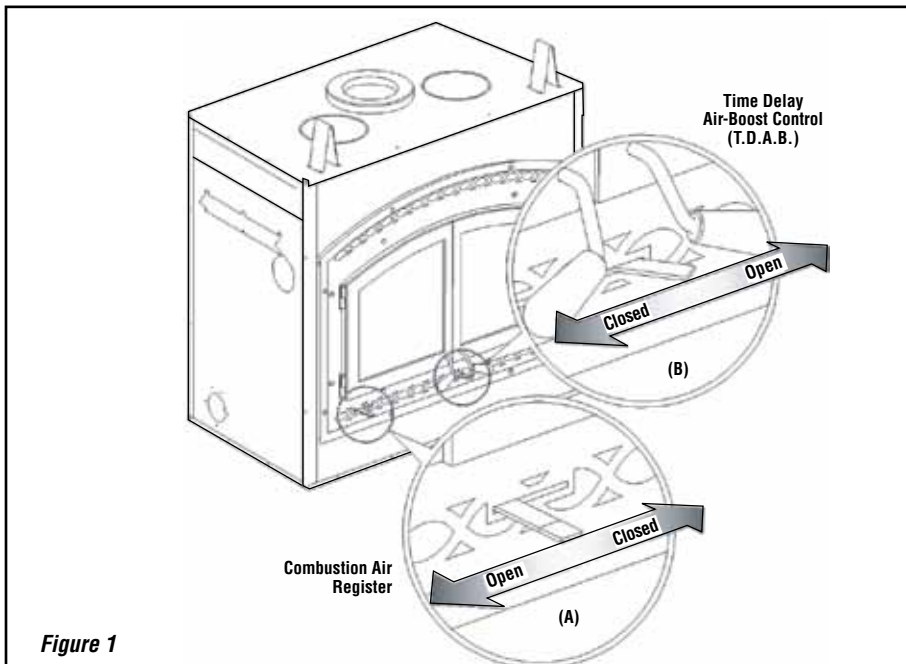

Figure 1
The combustion air control should be opened before opening the doors to minimize the possibility of back draft coming into the room (Figure 1-A) More details are available in *Refueling For Best Performance* on Page 5.
The register gradually reduces the amount of air injected, allowing for a better start of the fire, whatever the conditions (See sections *Building a Fire* and *Refueling For Best Performance* for proper sequence of operation). This allows you to start the fire, set the primary air control to the desired burn level and the fireplace will automatically adjust itself to that level once the fire is fully established (Figure 1-B).
- Completely open the air control level and the T.D.A.B. (Time Delay Air Boost) level. See **Figure 1**.